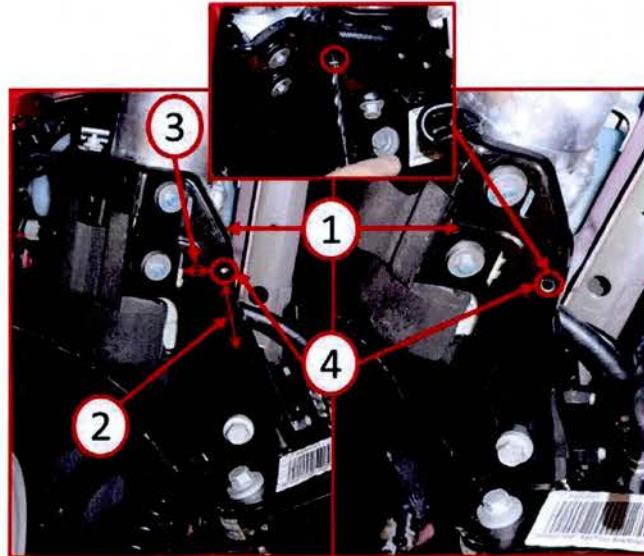

Fig. 6 Modify Steering Bracket
19. Locate the lower steering pump bracket (1) and measure 2 -61/64"(75mm) from the inside edge of the inner bracket slot (2) and place a mark centered in the middle of the bracket stand off feature as shown in (Fig. 6).
20. Measure 1 -11/64"(30mm) from the inside edge of the inner bracket slot (3) and place a mark centered with the first mark in the middle of the bracket stand off feature as shown in (Fig. 6).
21. Drill a 5/16"(8mm) hole (4) into the mark indicated on the lower steering pump bracket (Fig. 6).